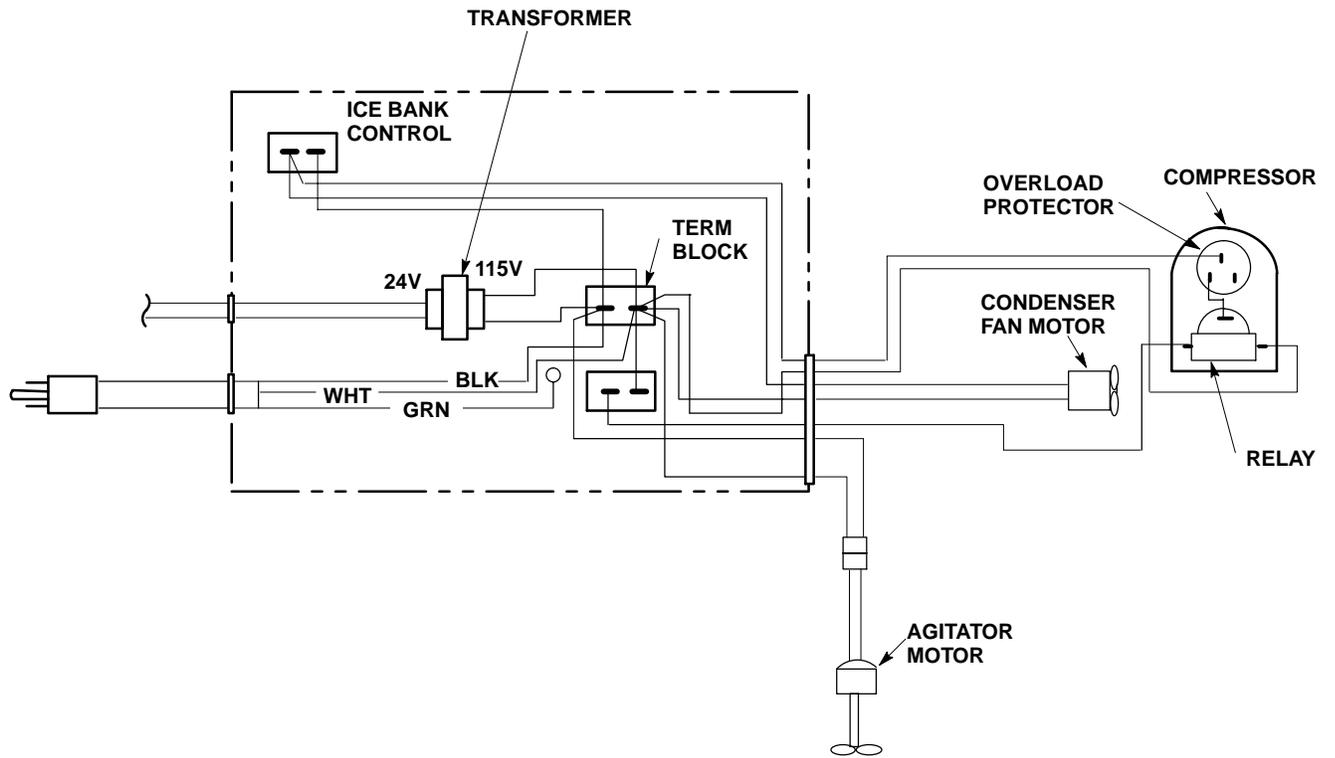

FIGURE 2. WIRING DIAGRAM
1. Place new compressor (item 5) in place on drop-in refrigeration assembly deck. Secure compressor to deck with clips.
3. Install RELAY (item 6) and OVERLOAD PROTECTOR (item 7) on compressor.
4. Connect black wire from overload protector to relays shown in Figure 2.
5. Connect all other electrical wiring, disconnected from old compressor, to new compressor as shown in Figure 2.